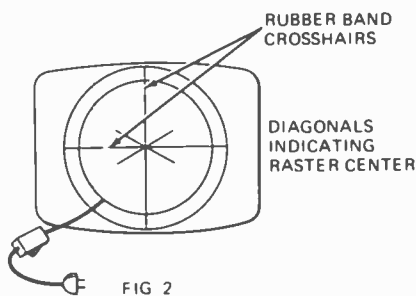

FIG. 2
FIG. 2— PHASOR DIAGRAMS used to represent speaker outputs when all channels (plus center outputs) are present in SQ encoded disc and are decoded with basic matrix decoder.
2. Draw diagonals on the raster to find its center (Fig. 2).
5. Center degaussing coil on raster (Fig. 2).